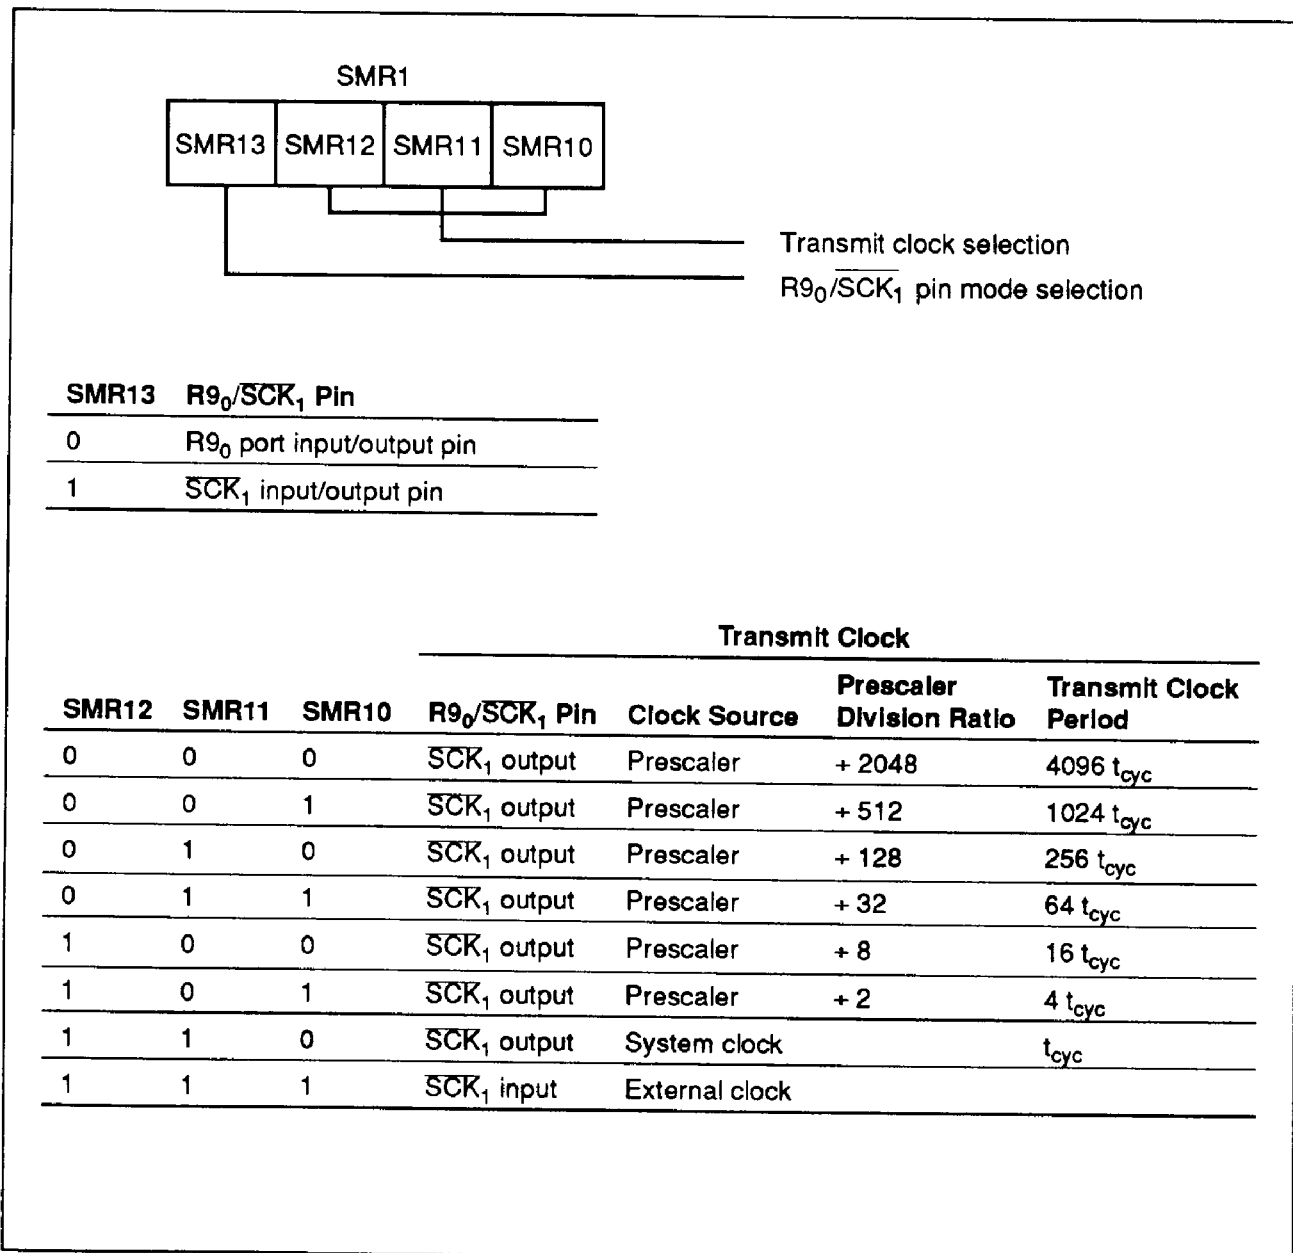

Figure 41 Serial Mode Register 1
**Serial Mode Register 1 (SMR1: \$005):** Four-bit write-only register which controls the  $R9_0/\overline{SCK}_1$  pin, transmit clock, and prescaler division ratio for serial interface 1 as shown in figure 41. Writing to SMR1 initializes serial interface 1.